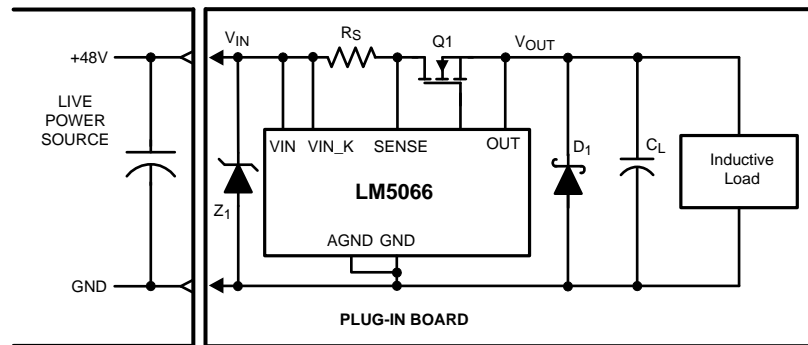

Figure 16. Output Diode Required for Inductive Loads
A) Continued proper operation of the LM5066 hot swap circuit requires a voltage clamping element present on the supply side of the connector into which the hot swap circuit is plugged in. A TVS is ideal, as depicted in Figure 16. The TVS is necessary to absorb the voltage transient generated whenever the hot swap circuit shuts off the load current. If the TVS is not present, inductance in the supply lines will generate a voltage transient at shut-off which can exceed the absolute maximum rating of the LM5066, resulting in its destruction. For low current solutions (<2A), a capacitor may be sufficient to limit the voltage surge, however this comes at the expense of input surge current on card insertion.
If the load powered by the LM5066 hot swap circuit has inductive characteristics, a Schottky diode is required across the LM5066's output, along with some load capacitance. The capacitance and the diode are necessary to limit the negative excursion at the OUT pin when the load current is shut off. If the OUT pin transitions more than 0.3V negative the LM5066 can be permanently damaged. See Figure 16.